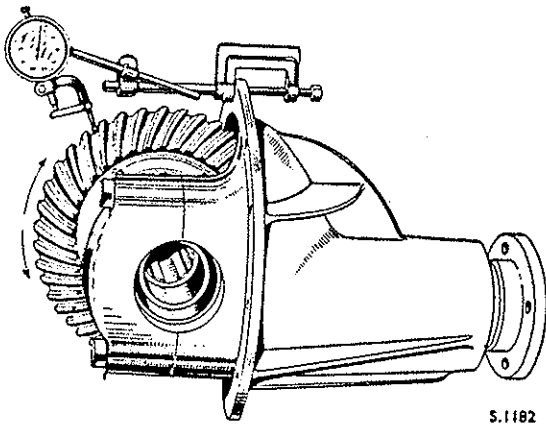

Fig. G.5. Checking backlash between the crown wheel and bevel pinion with a clock gauge and 90° adaptor
1. Mount a clock or dial gauge as shown in Fig. G.5. The gauge should be attached to the casing in such a position that its stylus bears on the heel of one of the crown wheel teeth. Obviously, the stylus should be arranged so that the gauge registers the full amount of the backlash; therefore it will be found convenient to use the 90° adaptor as shown. This fitting is usually supplied with clock or dial gauge sets.